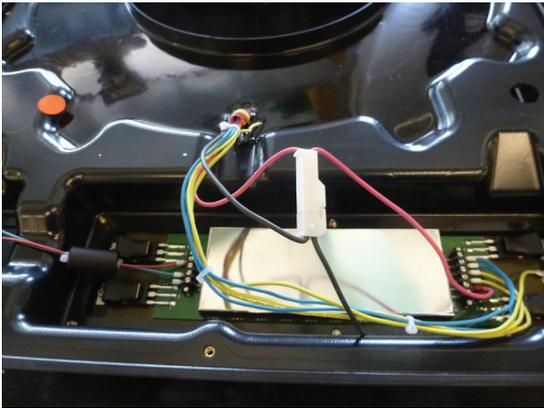

Figure 9: Short circuit the secondary winding
- o Short-circuit the secondary winding of the transducer by engaging the two one pin connectors on the leads to the measuring head (figure 9).